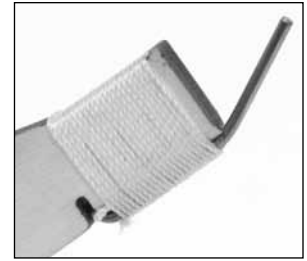

Figure 33
You will need to bend the hook at an angle so the hook, when prepped for launch, points up somewhat (Figure 33). How much to bend it is a matter of tuning your trebuchet.
1. Using the pliers, carefully bend the hook to about a 45-degree angle (Figure 33).